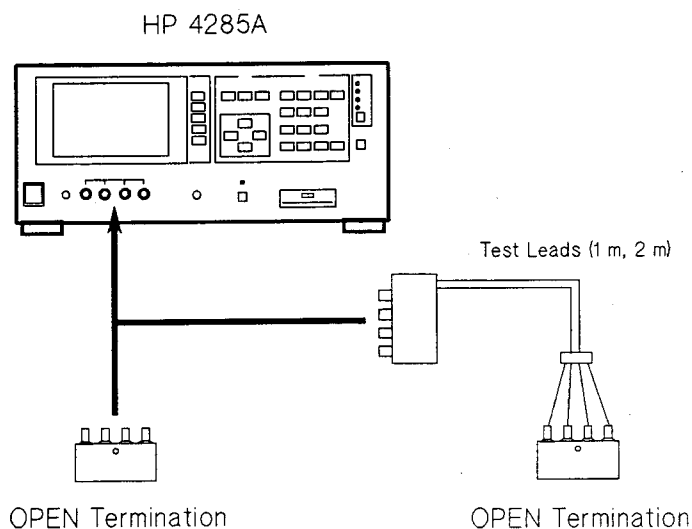

Figure 2-10. Phase Tracking Adjustment Setup
3. Perform the adjustment according to the program's instruction. Figure 2-10 shows the adjustment setup.